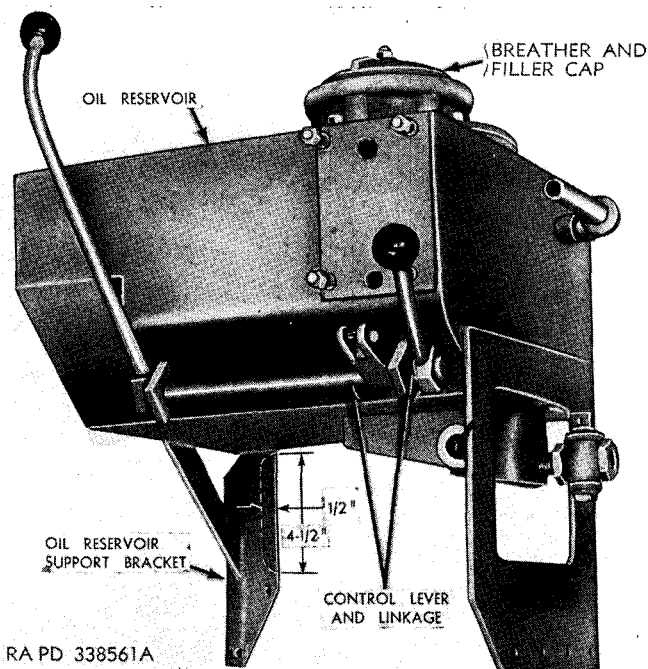

Figure 22. Alteration of oil reservoir support bracket.
j. ALTER OIL RESERVOIR SUPPORT BRACKET. The oil reservoir support bracket may interfere with the oil line or the primer lines on some tank models. This may be remedied by disconnecting the interfering primer line and bending it to suit, and by altering the oil reservoir support bracket as shown in figure 22.